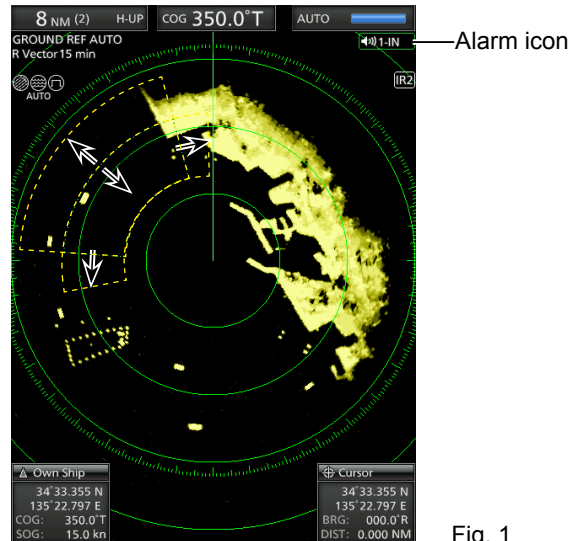
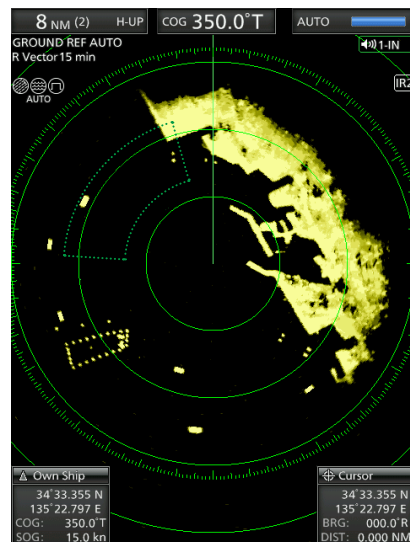

Fig. 1
Fig. 2
- The Alarm icon (🔔) on the upper right of the screen and the preset alarm zone(s) is displayed. (Fig. 1)
- The starting zone is displayed on the screen. (Fig. 1)
- ① Push [CLEAR]/[取消] to stop the alarm.
- ① Push [ALM1/2]/[报警1/2] to cancel the alarm signal and function.
- “🔔” and the preset alarm zone is displayed. (Fig. 2)